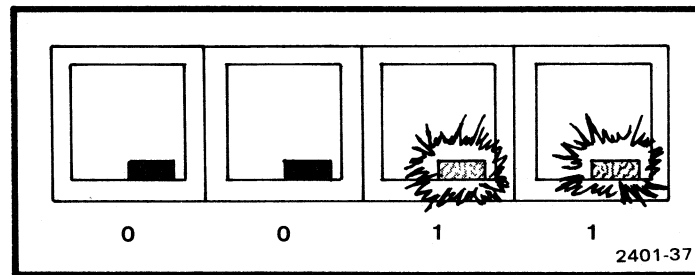

Figure F-7. Function key lights during third part of test.
5. After the "Test complete" (or "Test failed") message, press any key on the keyboard; this advances the 4025 to part three of the test. The lighted function keys display the binary numeral for the number three (0011), as shown in Figure F-7, and the screen displays the message "Cmos RAM test."